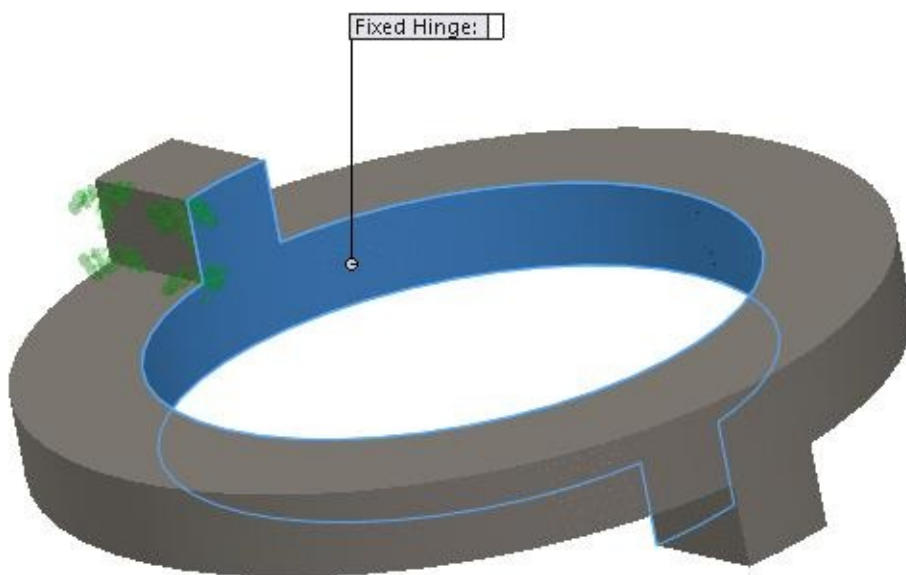

Figure-28. Round face selected for fixed hinge
- Select the inner round face of the model to make is fixed hinge; refer to Figure-28.